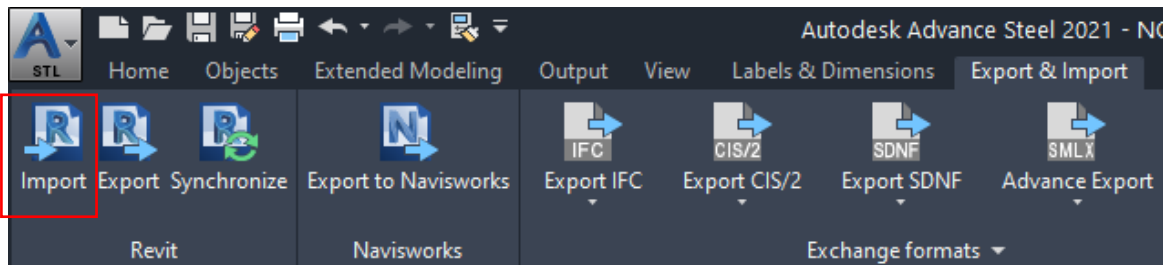

FIGURE 8: IMPORTING THE SMLX FILE FROM AUTODESK REVIT
2. From the **Export & Import** ribbon tab > **Revit** ribbon panel, click **Import**; as shown in Figure 8.